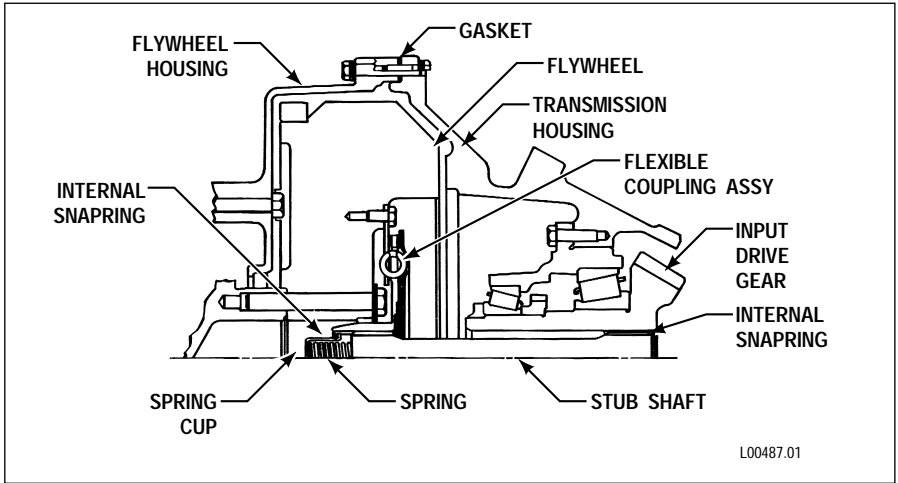

FIGURE 2-2. Engine-to-Transmission Drive Components — Typical Arrangement
- Move the transmission away from the engine, being careful so that the stub shaft does not fall out (Figure 2-2). The stub shaft can be seen, and supported
- Inspect the internal splines of the input drive gear for burrs or any obstruction that will prevent free insertion of the stub shaft. Insert the stub shaft into the drive gear and make sure it will seat against the internal snapping in the drive gear (Figure 2-2). Remove the stub shaft.
- Inspect the flexible coupling that is bolted to the engine flywheel (Figure 2-2). Check for cracks, weak or broken springs, damaged or worn splines, and tightness of the mounting bolts. Replace the coupling assembly if it is unserviceable.